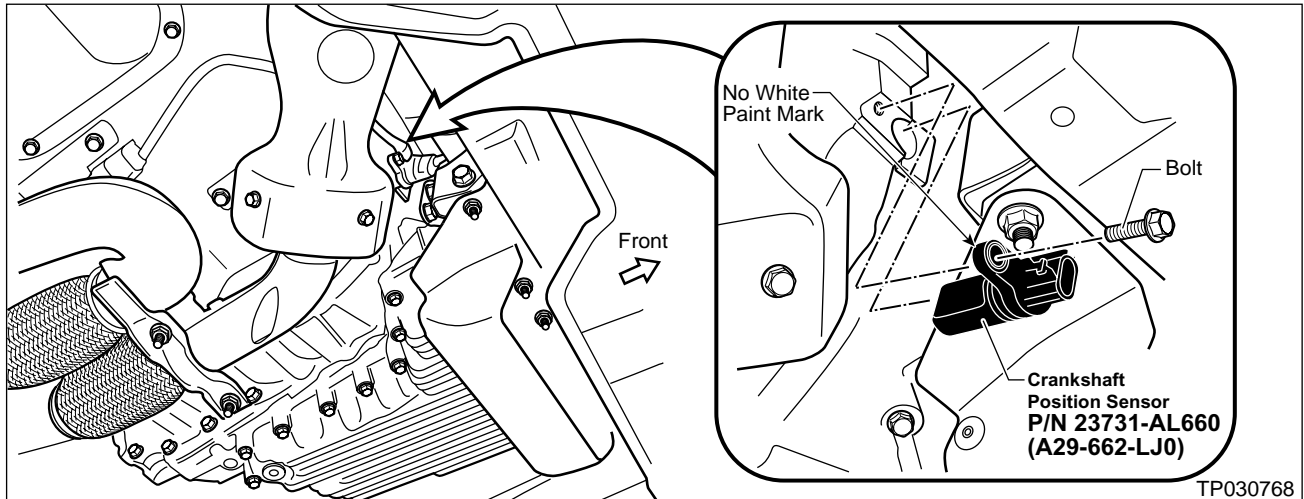

Figure 14
2. Locate the **Crankshaft Position Sensor** (see Figure 14).